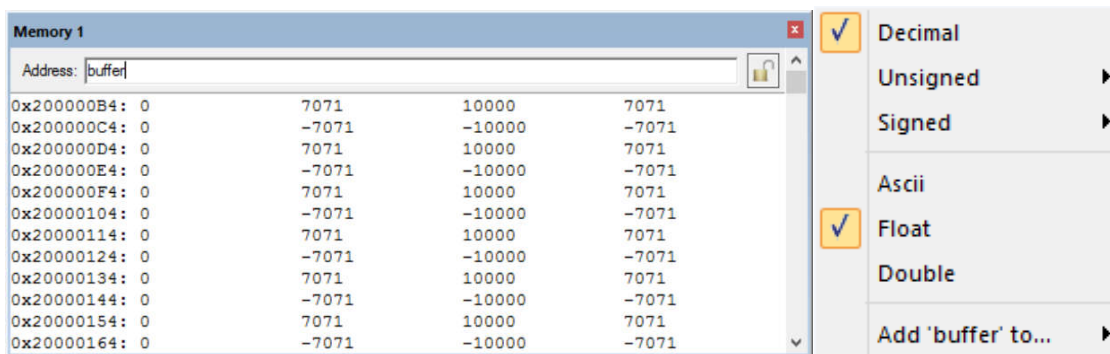

Figure 2: Memory 1 window showing the contents of array `buffer`
- Type the variable name **buffer** as the **Address** in the debugger's **Memory 1** window. Right-click on the **Memory 1** window and set the displayed data type to **Decimal** and **Float** as shown in Fig. 2.